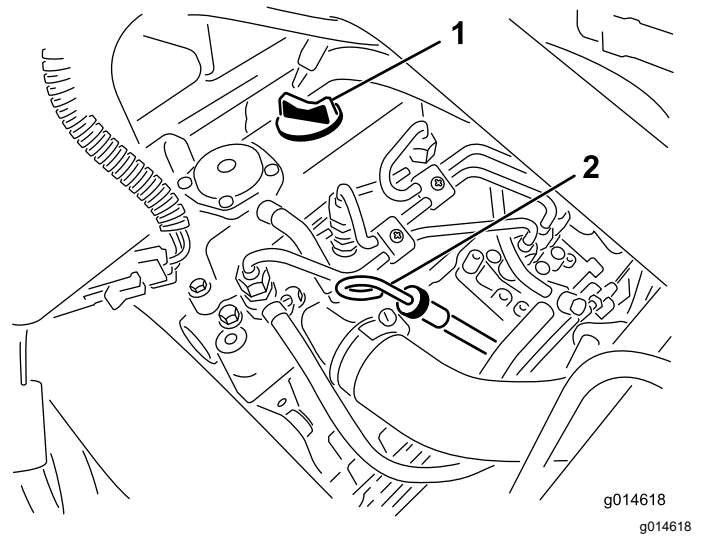

Figure 28
2. Remove the dipstick and wipe it with a clean rag (Figure 28).